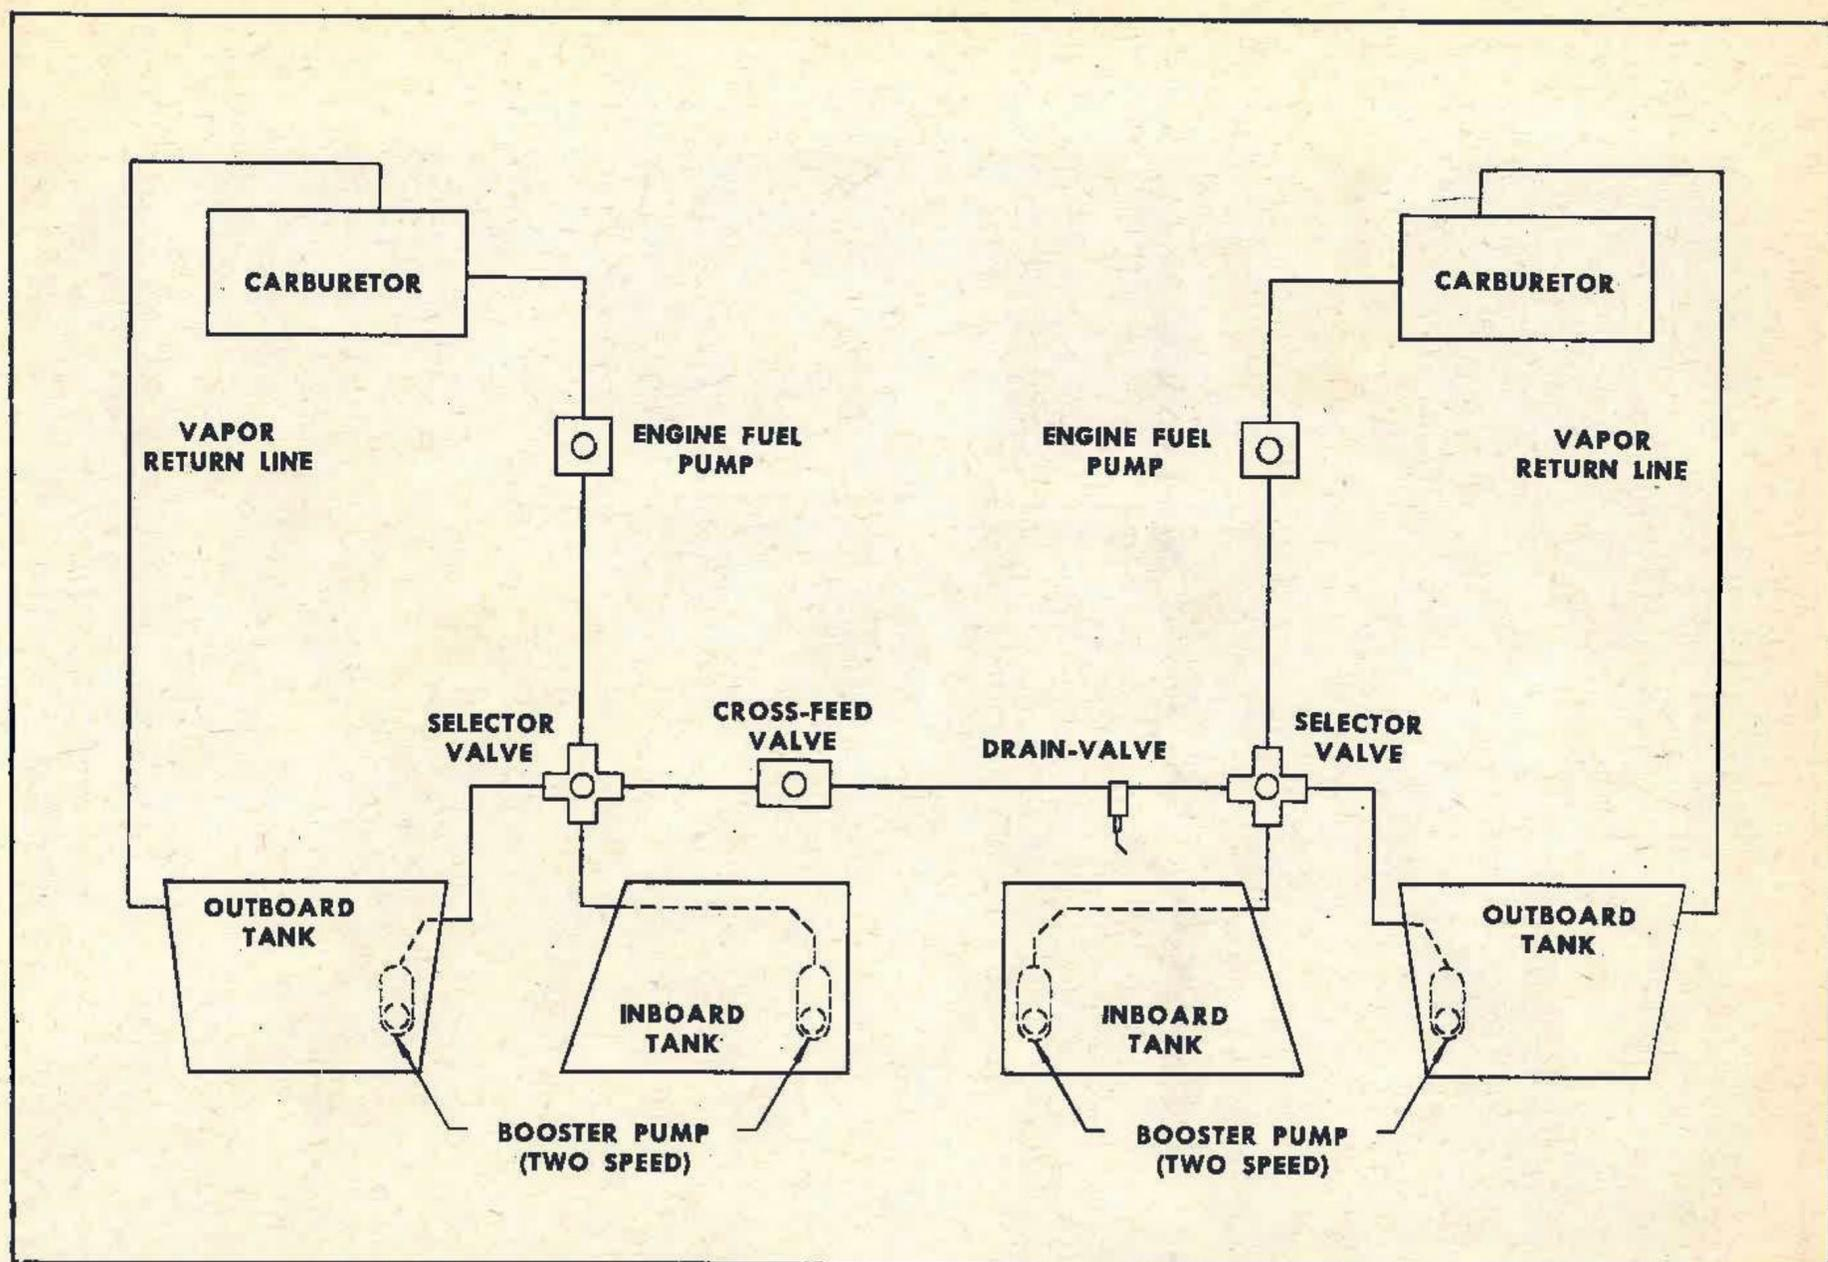

Figure 2 - Simplified Fuel System Diagram
(1) Fuel is carried in four self-sealing tanks having a total capacity of 630 U.S. (522 Imp.) gallons. The two inboard tanks are located between the spars in the inner wing, capacity 115 U.S. (95 Imp.) gallons each. The two outboard tanks are located in the upper portion of the engine nacelles, capacity 200 U.S. (166 Imp.) gallons each. In an emergency fuel may be taken from any tank desired. (Figs. 2 and 9.)